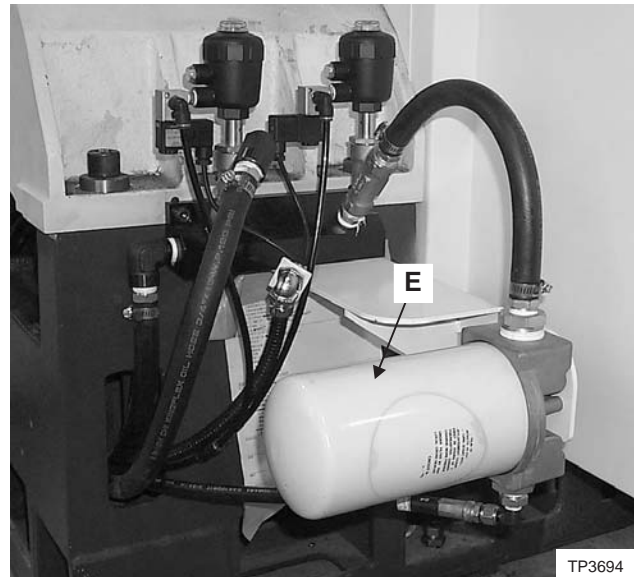

Figure 3.6 - Thru-Spindle Spin-On Canister Filter
Spin-on canister filter “E”, Figure 3.6, is mounted near the coolant pump on the right side of the tower (facing the rear of the machine). The spin-on canister filter must be replaced whenever there appears to be a drop in the thru-spindle coolant pressure.
2. Wrap the filter head with a rag to catch coolant as filter canister “E”, Figure 3.6, is removed. Unthread the filter from its mounting nipple.